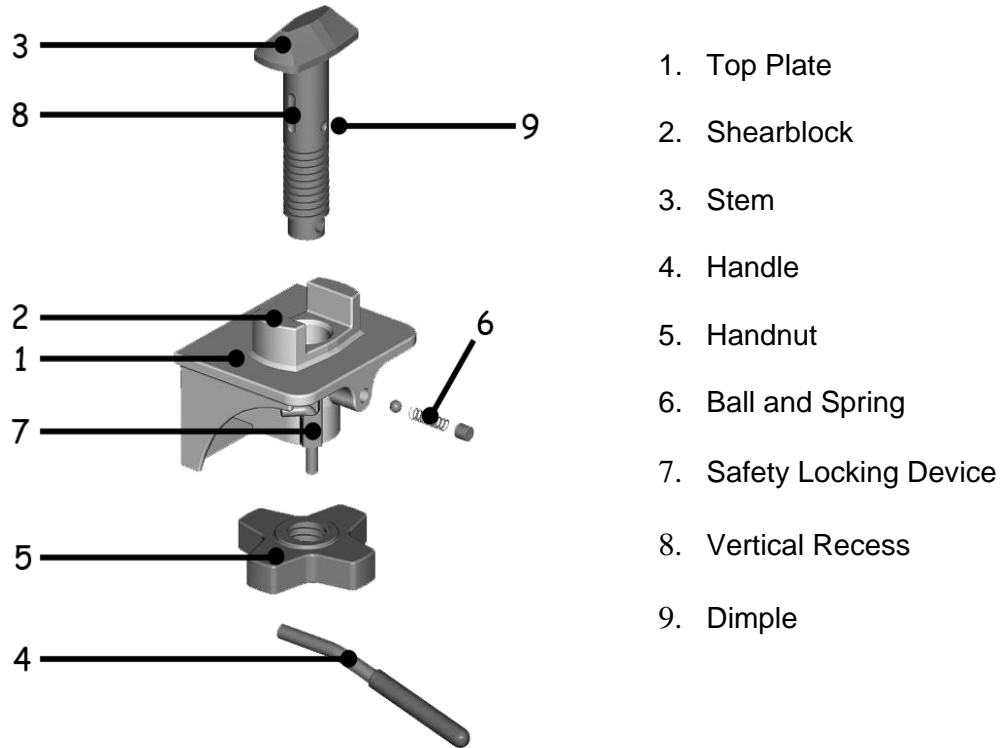
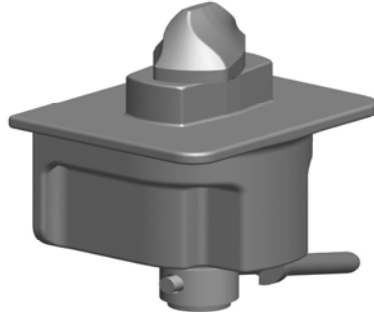
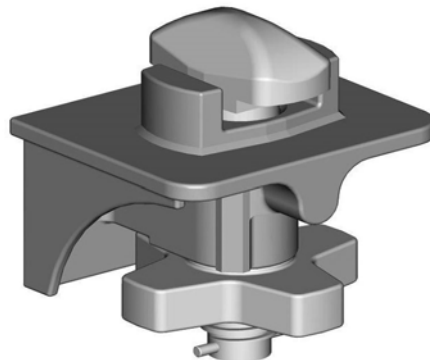

Figure 2
Figure 7
Figure 8
NOTE 1: For clarity the horizontal load-bearing surface will be entitled the Top Plate, see item 1 in figure 2.
NOTE 3: The fixed collar will be entitled the Shearblock, see item 2 in figure 2
NOTE 4: The rotatable head will be entitled the Stem, see item 3 in figure 2.
- 4.5 Semi-automatic twistlocks can be either screwdown, or non-screwdown as per figure 7. These twistlocks offer the advantage of the stem being automatically rotated into the locked position after the corner fitting engages with the top plate.
- 5.1 The most common method of rotating the stem to the locked position is by an attached handle, item 4 in figure 2. The convention is for the handles to be in line with the body when the stem is in the locked position, as per figure 7. The action of the stem turning is classed as a first or primary lock. With semi-automatic twistlocks the stem automatically rotates to the locked position as the corner fitting passes over the stem head.
- 5.2 The most common method of ensuring the stem stays in the locked position is by a detent or detent system, as per figure 2, which uses a spring to engage a least one steel ball into a vertical recess in the stem, items 6 and 8 in figure 2. An alternative method is for the stem to engage in a recess in the shearblock, as per figure 8. Both methods are classed as secondary locks.
- 5.3 The handnut, item 5 in figure 2, used on the screwdown versions, is classed as a third lock, and any device used to secure the handnut, item 7 in figure 2, is classed as a fourth lock.